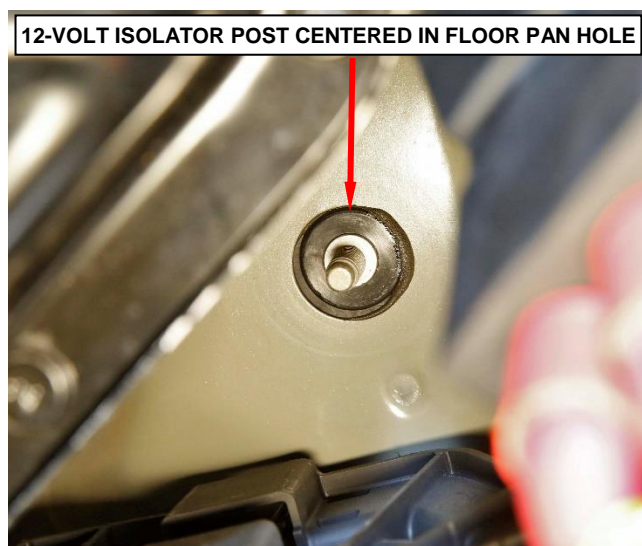

Figure 53 – 12-Volt Isolator Post
21. Inspect that the 12-volt isolator post is centered in the vehicle floor pan hole (Figure 53).